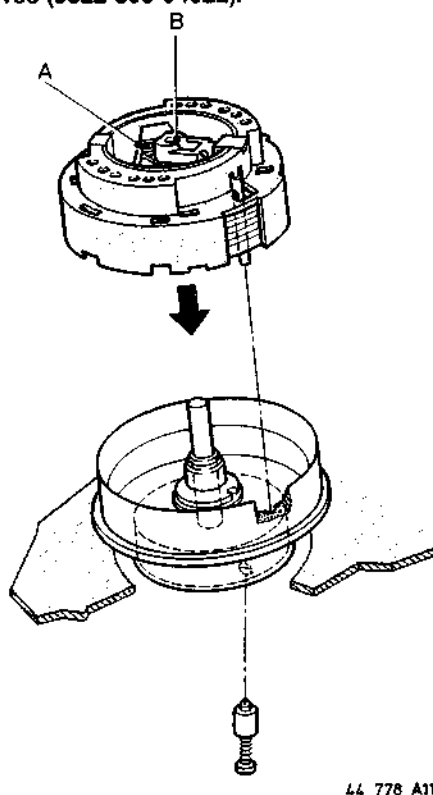

Fig.1-17
- Push the locking pin (one is supplied with each service replacement upper cylinder) through the bottom hole of the scanner motor, line it up with the hole in the rotor by rotating the upper cylinder. Apply enough pressure to snap it home, see Fig. 1-17